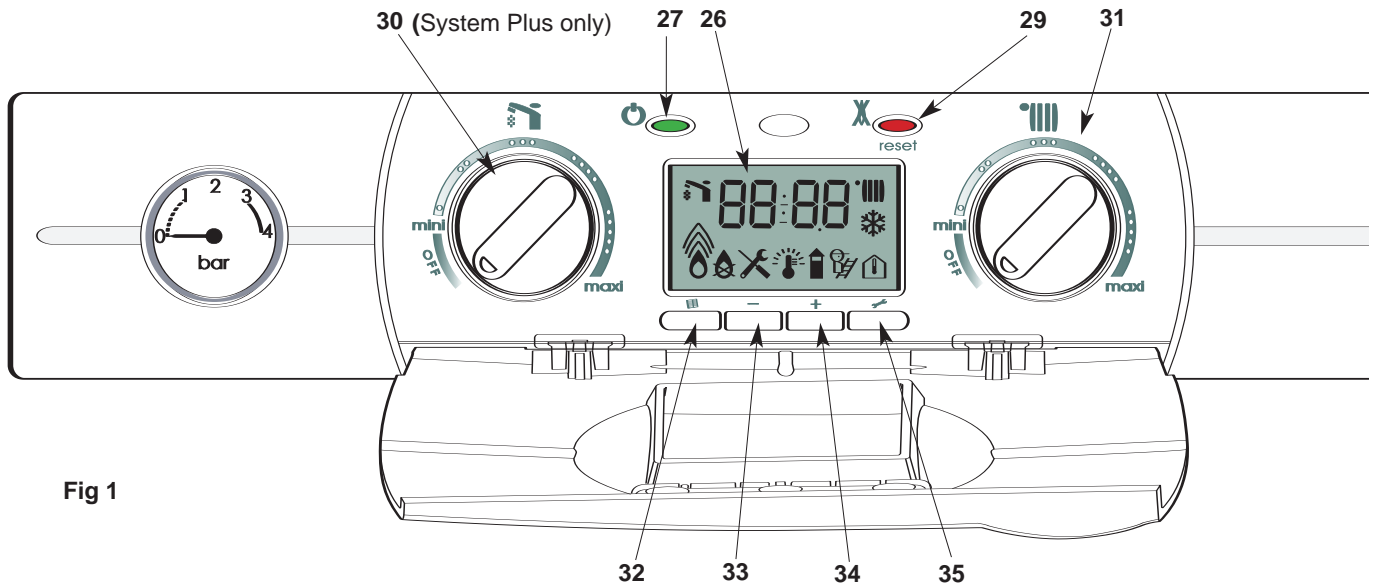

Fig 1
Control panel (fig. 1)
1. Check the pressure in the central heating system is above 0.7 bar and below 1.5 bar with the pressure gauge **16** (fig.1), should it be necessary to re-pressurise the system, ensure the filling loop **45** (fig. 2) is attached, open the filling taps **43 & 44**, the pressure gauge will now start to rise, once the pressure reads 1.0 bar, close the filling taps and disconnect the filling loop.
Turn the Central heating knob (**30** Fig.1) between mini and maxi.